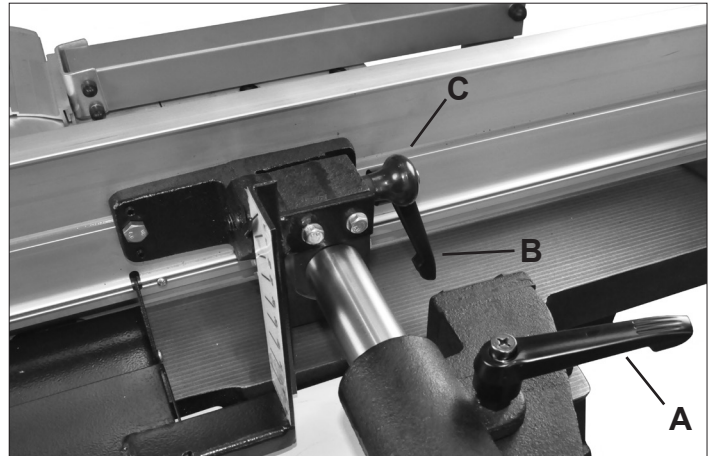

FIG. 7
1. After loosening the Locking Handle (#292, FIG.7, A), the jointer fence can be moved forward or backwards over the jointer bed and cutterhead, to match the workpiece width.
3. Tilt the fence to the angle desired, then re-tighten the locking handle (B) to ensure the fence is securely in position. The pin stop knob only secures the fence in the 90° position, so is not active when the fence is set at an angle.